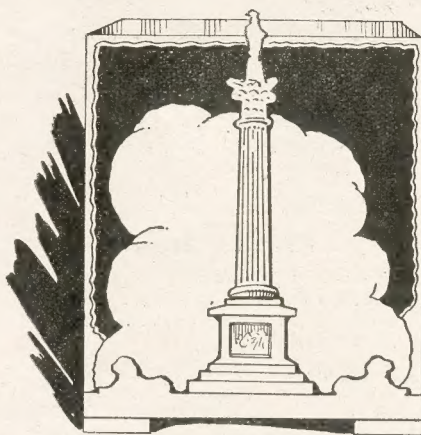

Fig. 1—Front view of completed box
**T**HIS little money box should make a strong appeal to all our fretworker friends and more especially to the lovers of our national hero, Lord Nelson. It is around the monument of Nelson in Trafalgar Square, London, that we have centred our idea of the mystery money box illustrated in Fig. 1.
In decorating and finishing the box, an idea can be got from Figs. 1 and 5. An outline of cloud could be drawn on the front and the outer sky painted dark blue, or even black, to throw in relief the "stone" column.